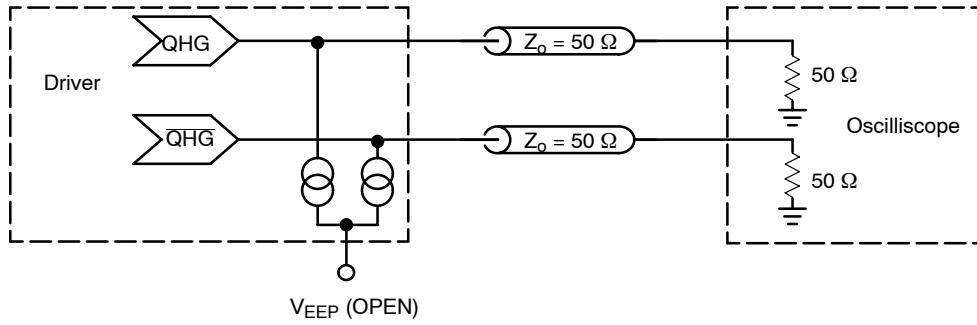
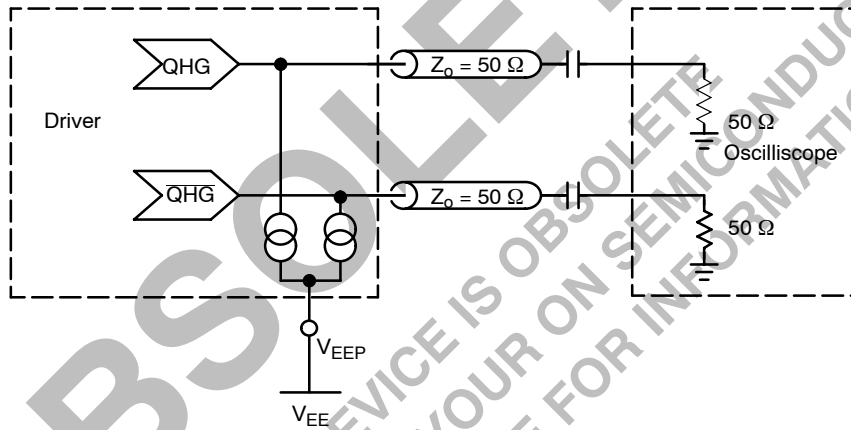

Figure 11. QHG/QHG Device Evaluation Set-up; $V_{EEP} = OPEN$
Figure 12. QHG/QHG Device Evaluation Set-up; $V_{EEP} = V_{EE}$
- QHG/QHG outputs loaded with $50\ \Omega$ to $V_{CC} - 2.0\text{ V}$ ($V_{EEP} = \text{OPEN}$) Figure 11 or with optional current source ($V_{EEP} = V_{EE}$) Figure 12. Q/Q outputs loaded with 8 mA current source (CS_SEL = V_{EE}).